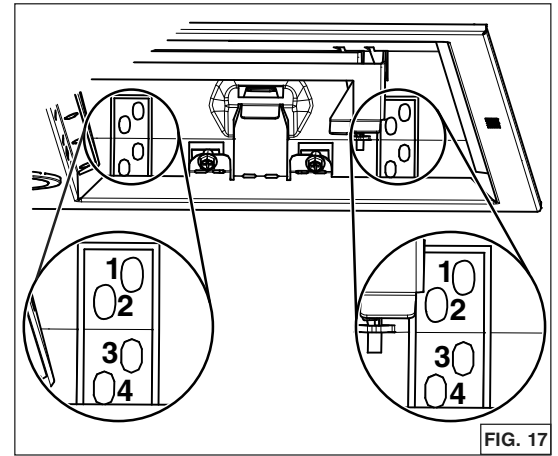

FIG. 17
- Lift the unit until contact is made between the unit flange and cabinet. Secure the unit to the cabinet using 4 no. 8 x 5/8" wood screws included in parts bag (2 screws per side). Use upper or lower holes (1, 2, 3 or 4) (FIG. 17)